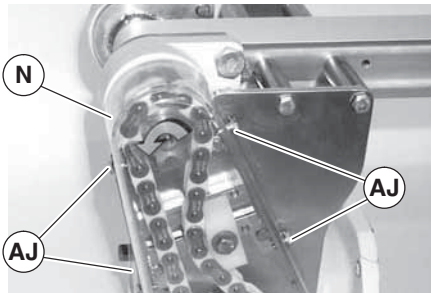

Figure 28
1. Loosen four screws (Figure 28, item AJ) and remove cover (N).
Do not over-tighten screws (Figure 28, item AJ).
8. Install cover (Figure 28, item N) and tighten four screws (AJ) to 35 in-lb (4 Nm).